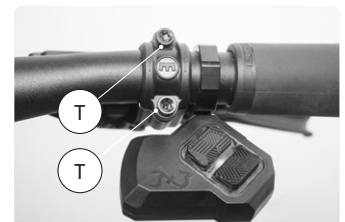

FIG. 26
- 1 Loosen the two Torx screws T on the braking lever (Fig. 26).
2. Loosen the hexagon socket screw S on the switch lever (Fig. 26).